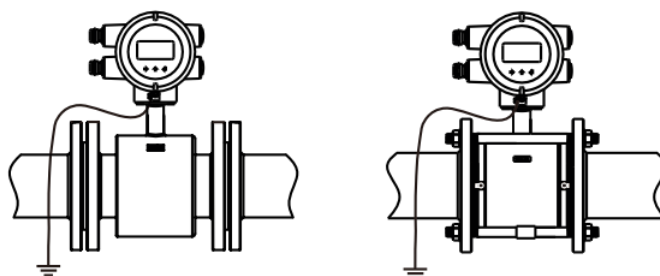
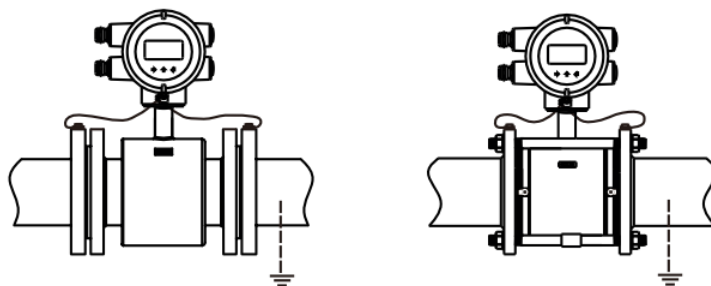

Figure 4-1 The Device Housing and Medium Should Be Grounded at the Same Time
Figure 4-2 Metal Pipe Grounding
- When using a grounding ring, the grounding of wafer sensor is shown in the figure to the right in Figure 4-1 or the figure to the right in Figure 4-2.
- When using a three-electrode sensor, the grounding is shown in Figure 4-1.
The grounding of the wafer sensor is shown in Figure 4-1 on the right.
The grounding of wafer flowmeter is shown in Figure 4-2 on the right; and the grounding of three-electrode flowmeter is shown in Figure 4-1 on the left.